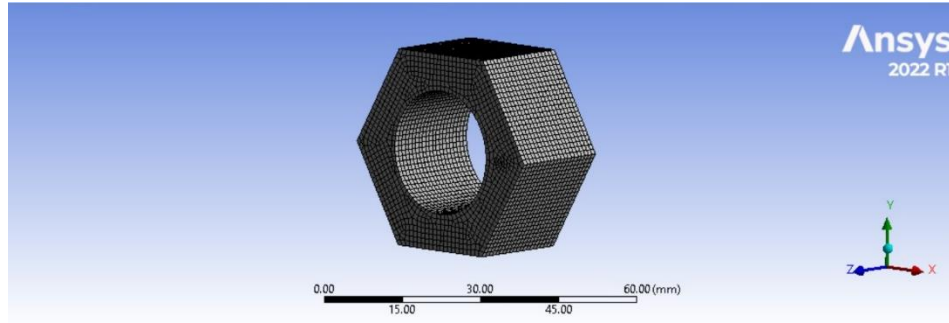

Figure 3b: Generated Mesh on Nut
- **Mesh:** High density mesh on the internal threads where stress concentration is maximum as shown in **Figure 3b**
- P4 - Force Z Component (N)